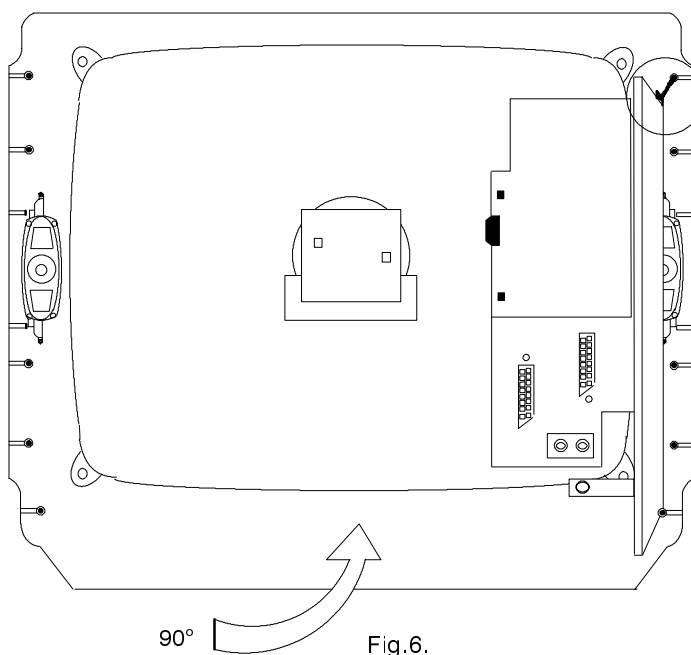
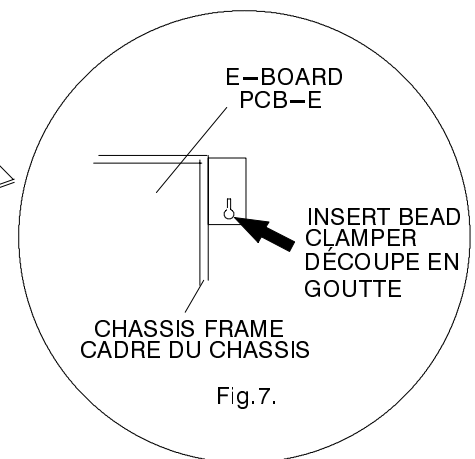

Fig.6.
Fig.7.
2. Turn the chassis through 90°, anti-clockwise, as shown in fig.6.
3. Clip the chassis onto the support bracket as shown in fig.6 and fig.7.